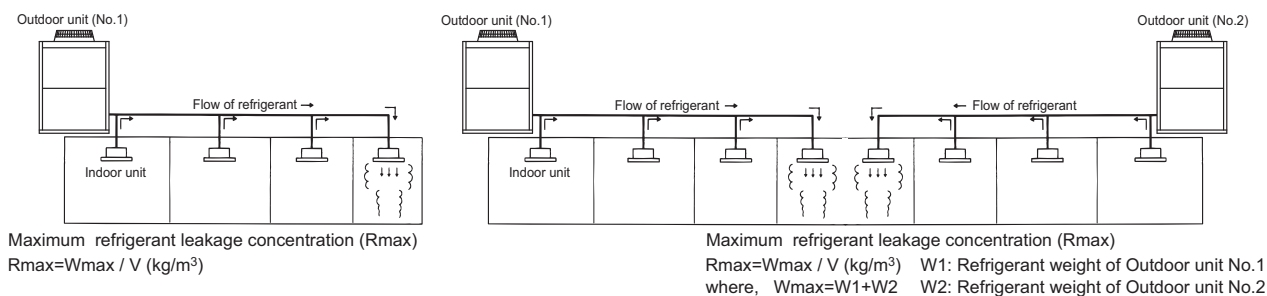

Fig. 4-1 The maximum refrigerant leakage concentration
(2) Confirm the Critical concentration and take countermeasure
The maximum refrigerant leakage concentration (Rmax) is defined as the result of the possible maximum refrigerant weight (Wmax) leaked into a room divided by its room capacity (V). It is referable to Fig.4-1. The refrigerant of Outdoor unit here includes its original charge and additional charge at the site.